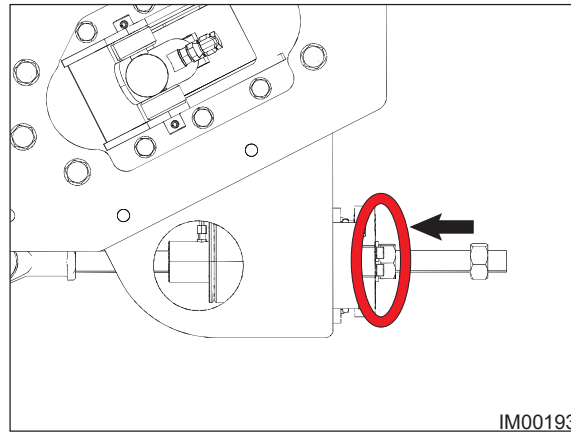

Fig: 7.14 - Spring, Compression Plate & Nut
12. The spring, compression plate, and compression nut will seat back into the housing (Fig: 7.14).